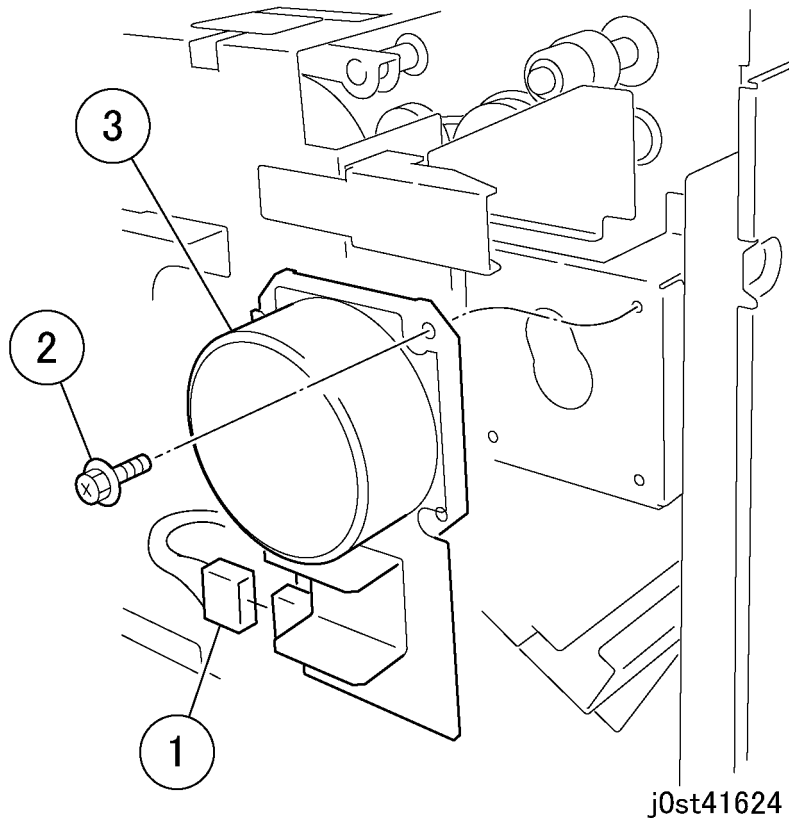

Figure 1 Removing the Finisher Drive Motor (j0st41624)
2. Remove the Finisher Drive Motor. (Figure 1)